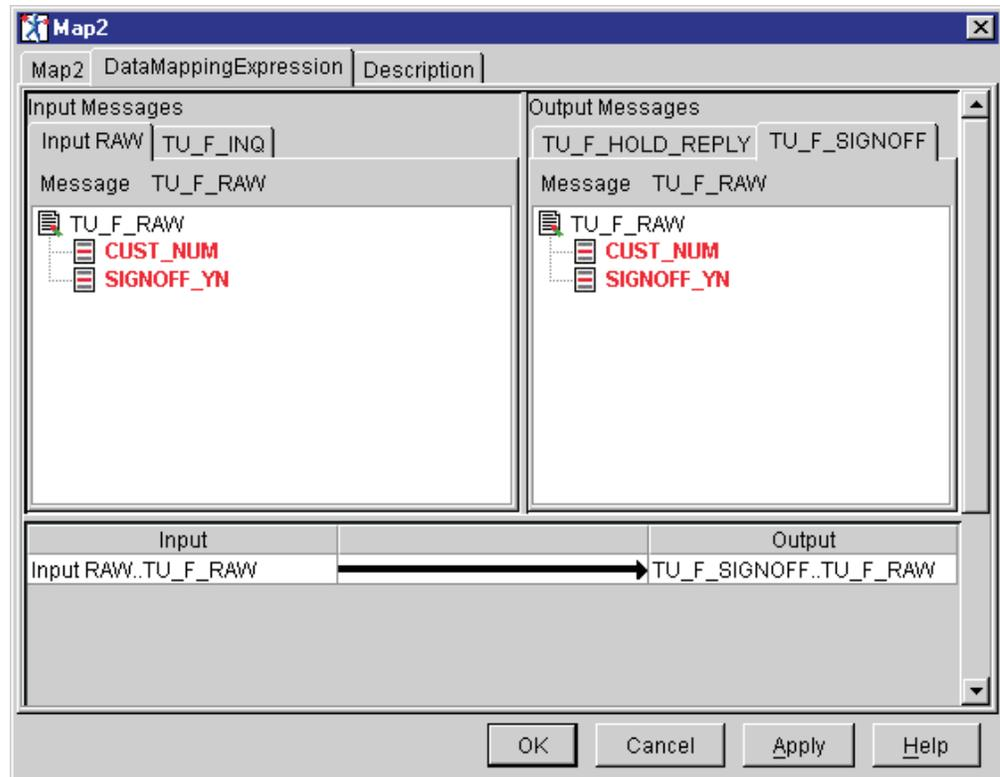

Figure 168. Mapping for Map2 node
- 2) Perform the mapping for the Map2 node as shown in Figure 168 on page 217.
Select the Input RAW message tab (Input Messages) and TU\_F\_SIGNOFF message tab (Output Messages). Left click on the TU\_F\_RAW message under the Input RAW message tab and drag the mouse cursor to the TU\_F\_RAW message under the TU\_F\_SIGNOFF message tab. This will create a mapping between the two messages (see Figure 168 on page 217).